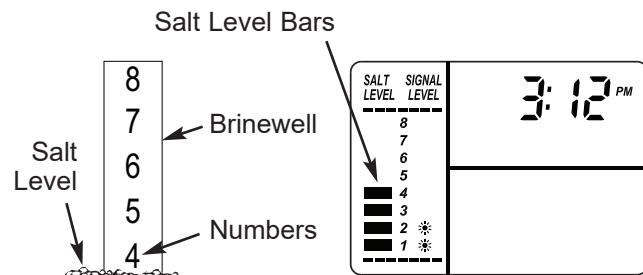

FIG. 25
2. The salt level scale, on the brinewell inside the tank, has numbers from 0 to 8 (see Fig. 25). Observe the highest number the leveled salt is at, or closest to.
3. Press the SET SALT LEVEL button as many times as necessary to make the salt level bars in the display (see Fig. 25) match the number on the brine-well. At level 2 or below, the Low Salt light will flash (See Page 12).